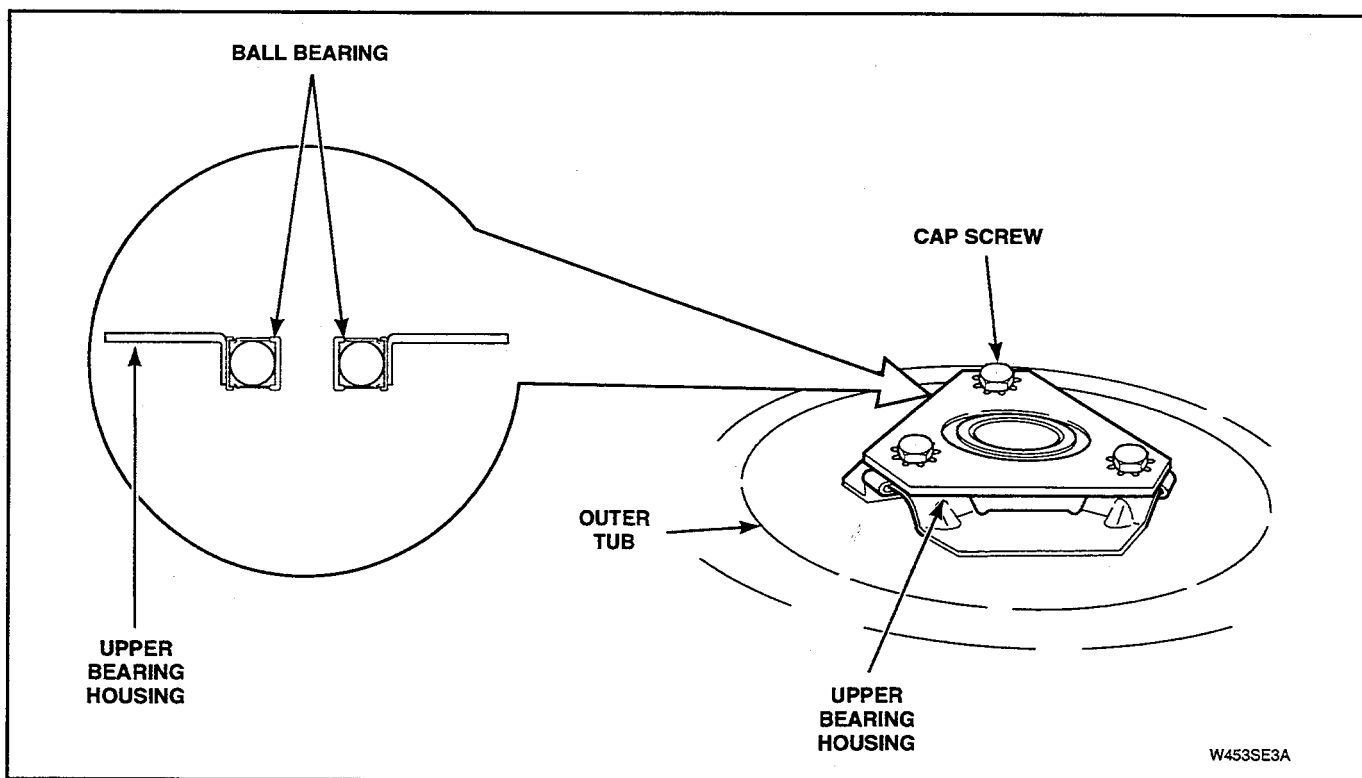

Figure 5-38
- Remove three screws holding upper bearing and housing to bottom of outer tub. See Figure 5-38.
NOTE: Replace bearing and housing as an assembly. See Figure 5-38.